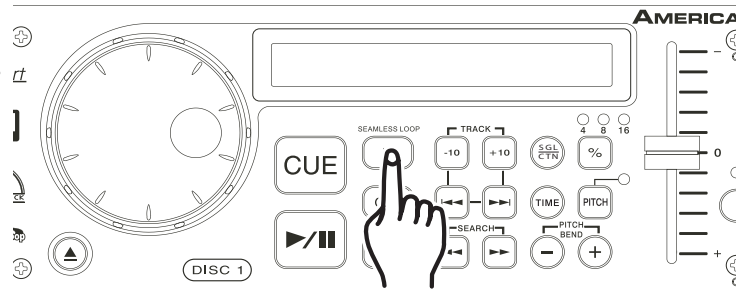

Figure 17
2) Press the IN BUTTON (4). This will set the starting point of the Seamless Loop (figure 17). The IN BUTTON (4) will blink.